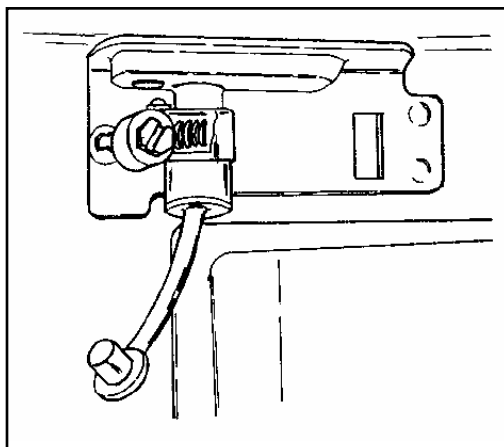

Figure 2-1: Draining Condensate to the Rear
1. Unscrew the clip from the outlet connection and remove the rubber seal (refer to Figure 2-1 – Draining the Condensate to the Rear).